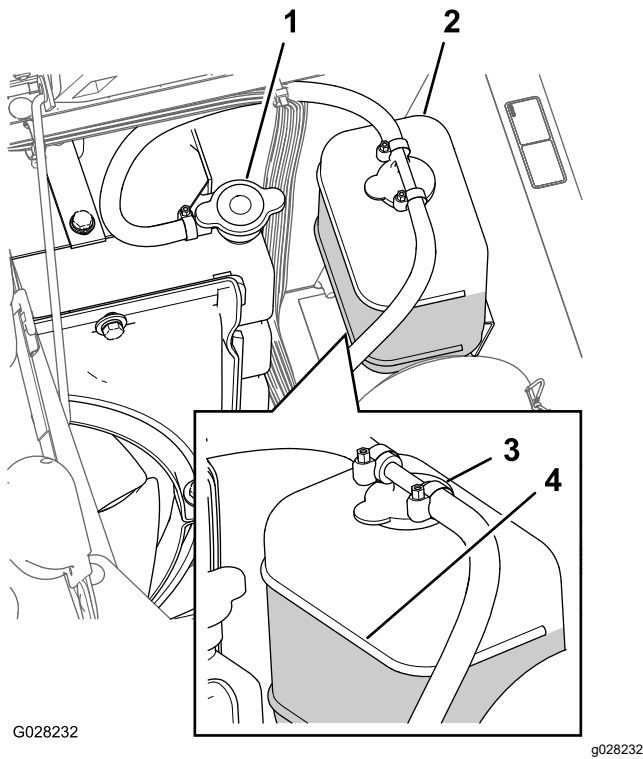

Figure 94
3. Carefully remove the radiator cap and the expansion-tank cap (Figure 94).
Note: The radiator should be filled to the top of the filler neck and the expansion tank filled to the Full mark on the tank (Figure 94).
5. If the coolant level is low, remove the expansion-tank cap and the radiator cap, and fill the expansion tank to the Full mark and the radiator to the top of the filler neck (Figure 94).
6. Install the radiator cap and the expansion-tank cap (Figure 94).
2. Wait until the engine is cool, then remove the radiator cap (Figure 94).
6. Remove the radiator cap (Figure 94).
8. Start the engine with the cap loose on the radiator (Figure 94).
10. Once the coolant has warmed up, top off the coolant level to the sealing surface of the cap and tighten the cap (Figure 94).
11. Open the expansion-tank cap and fill the tank with coolant to the Cold level (Figure 94).